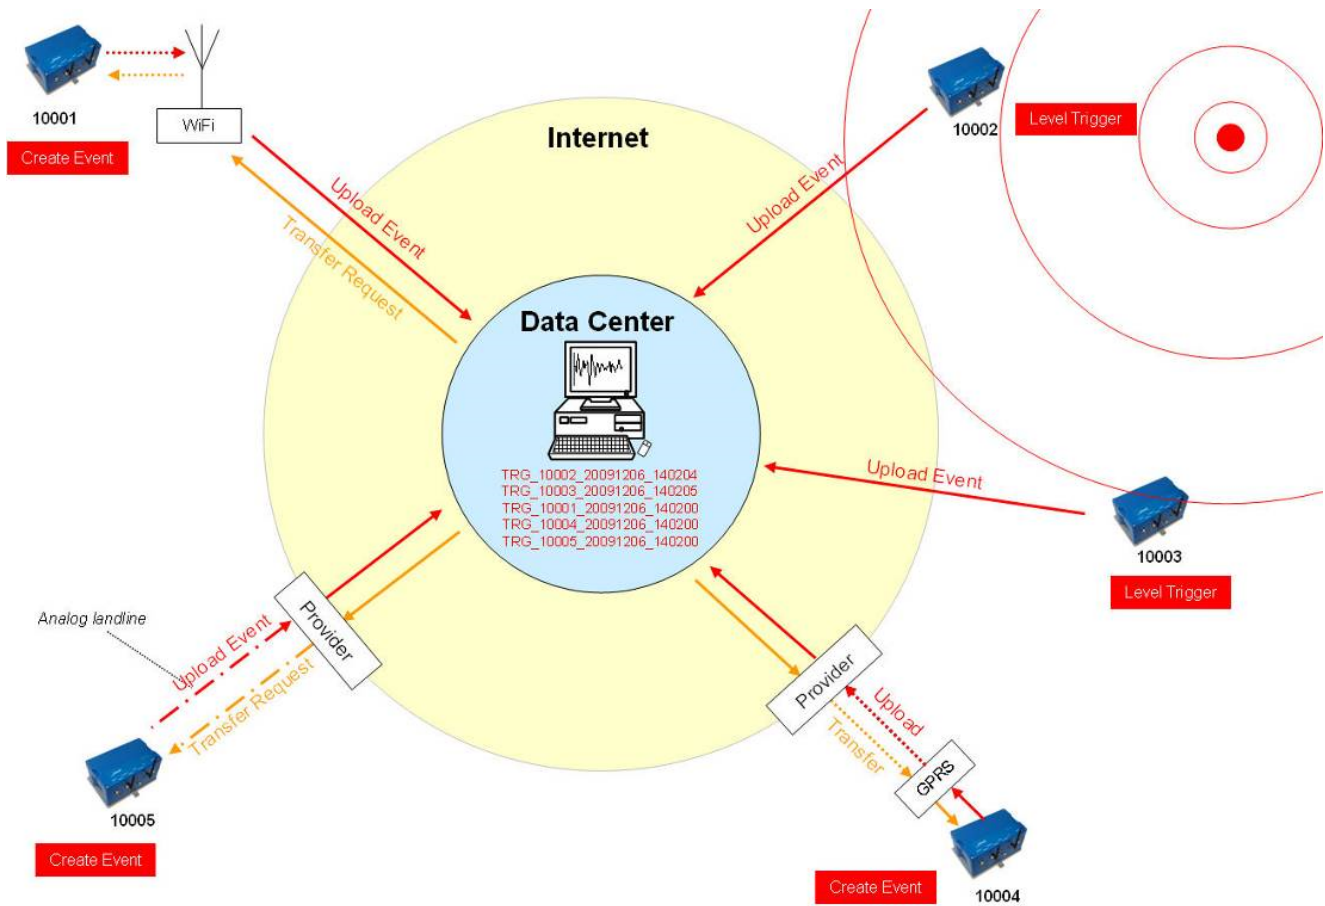

Figure 30: Behaviour on Events: Upload of extracted events
- All instruments will download the request during the next time checking the server (see Figure 30)
- The extracted event file will be uploaded to the data server (see Figure 30)